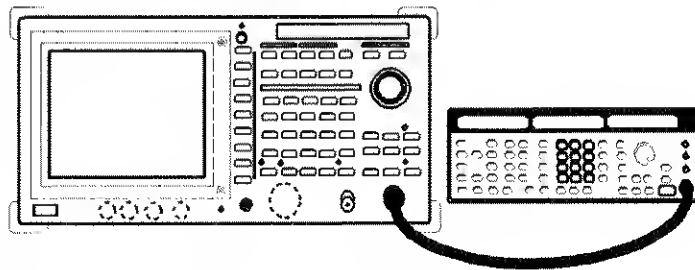

Figure 2-121 Setup for Measuring the Harmonic Distortion
1. Connect the unit under test as shown in Figure 2-121.